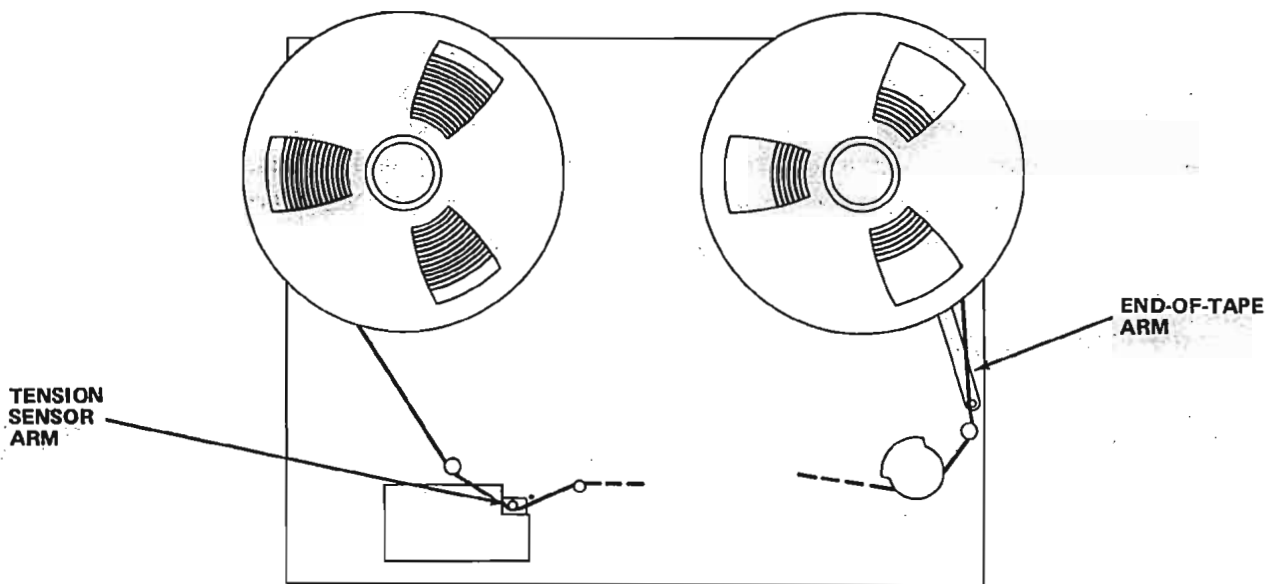

Figure 11. Normalizing Reel Servos
1. Energize the equipment in stop mode, hold the tension sensor arm all the way in toward the center of the transport, and adjust supply gain potentiometer R7 until torque on the supply reel just reduces to zero (Figure 11).